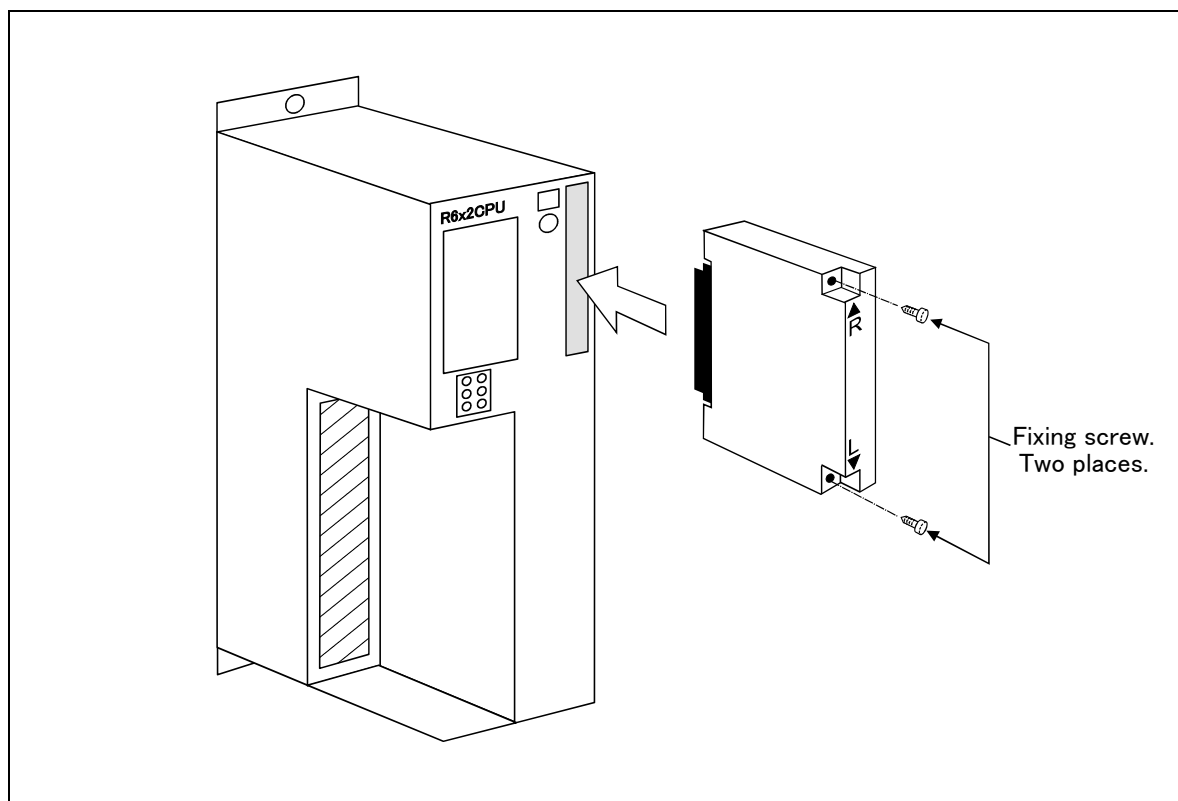

Fig.3-50 : Installation of extension memory cassette
- As shown in Fig. 3-50, insert the memory cassette all the way to the back with the "▲_R" facing up.